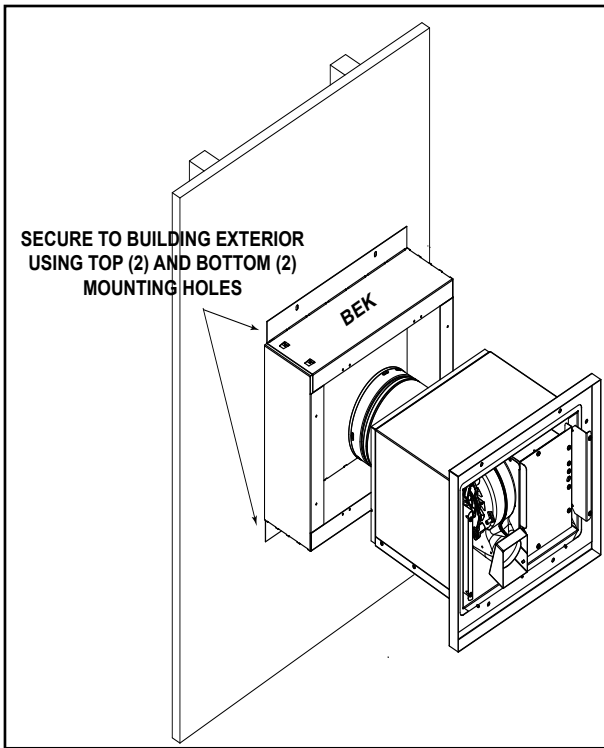
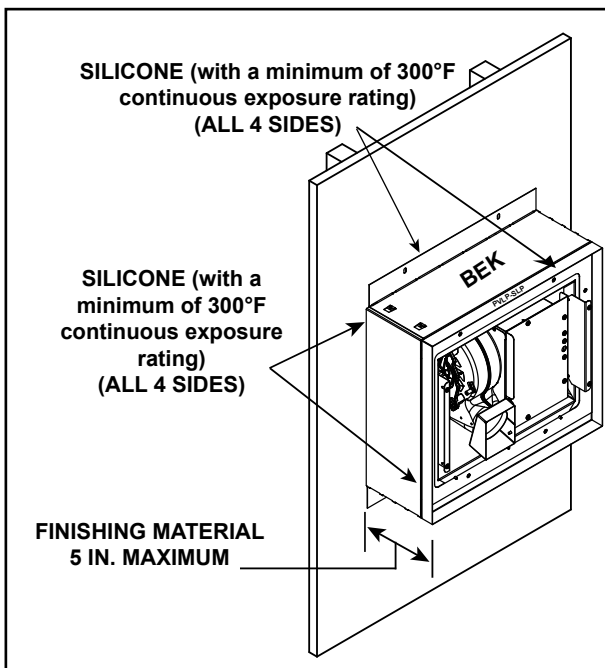
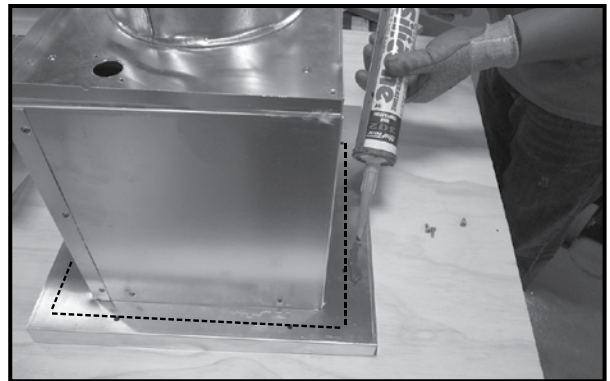

Figure 3.22 SLP-LPC Attached to LPC-BEK
Figure 3.23 Silicone Weather Sealing
Figure 3.24
18. After PVLP-BEK has been installed and the finishing of the wall has taken place, apply a bead of silicone (with a minimum of 300° F continuous exposure rating) to the PVLP-BEK around the entire metal flange, as shown in Figure 3.24 with the dotted line.
19. Apply a bead of silicone (with a minimum of 300° F continuous exposure rating) around the entire metal flange of the PVLP-SLP. See Figure 3.24. Align with PVLP-BEK as shown in Figure 3.22. Ensure cap is level and square, then secure PVLP-SLP to PVLP-BEK as shown in Figure 3.23.
20. After the PVLP-SLP has been secured to the PVLP-BEK, silicone (with a minimum of 300° F continuous exposure rating) should be applied around outer edge of PVLP-BEK where it meets the building exterior. Silicone (with a minimum of 300° F continuous exposure rating) should also be applied where PVLP-SLP and PVLP-BEK meet, as shown in Figure 3.23.
22. Place a bead of silicone (with a minimum of 300° F continuous exposure rating) on the back side of the mounting flange for the cap. See Figure 3.24.